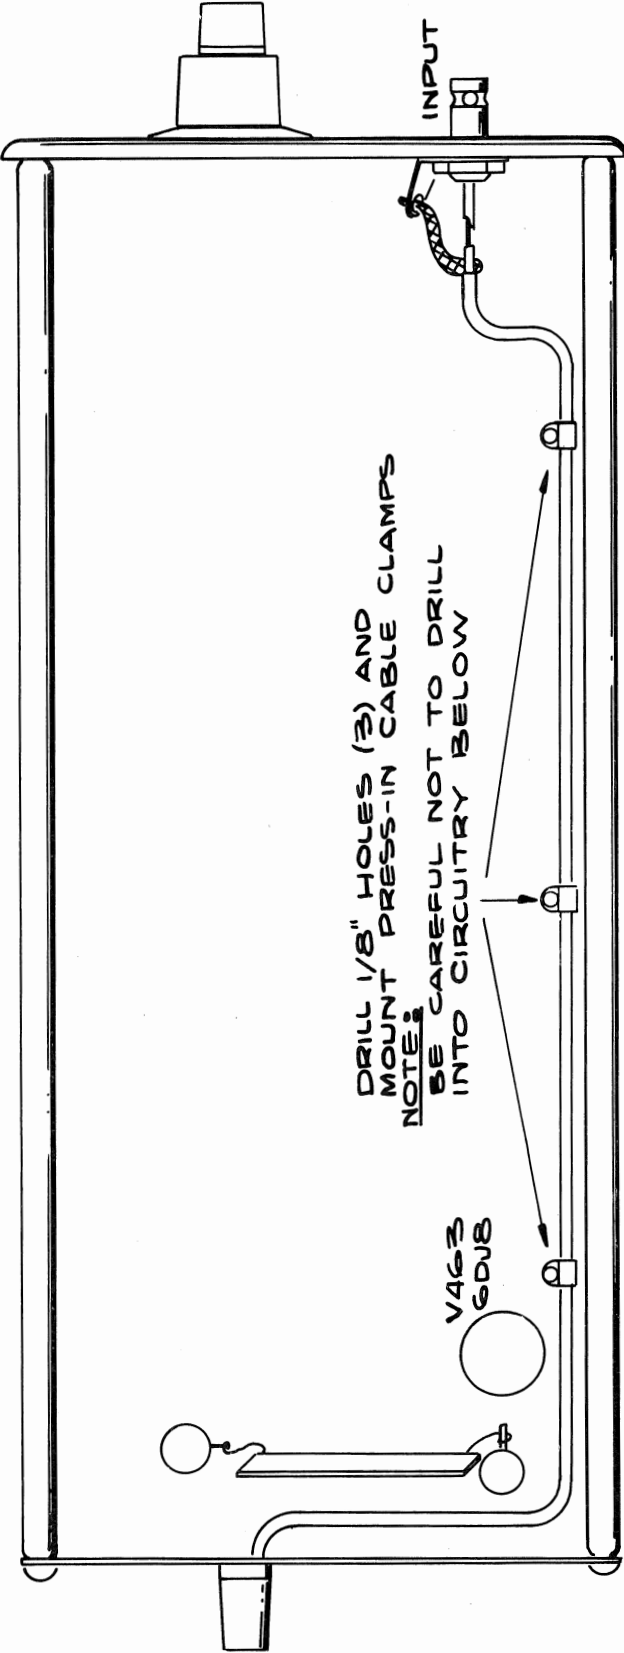

Fig. 4, 75/3A75
- ( ) 6. Drill three 1/8 in. holes as shown in Fig. 4.
- ( ) 7. Dress the coax along the chassis to the INPUT connector (see Fig. 4). Solder the center conductor to the connector and the shield to the ground lug.